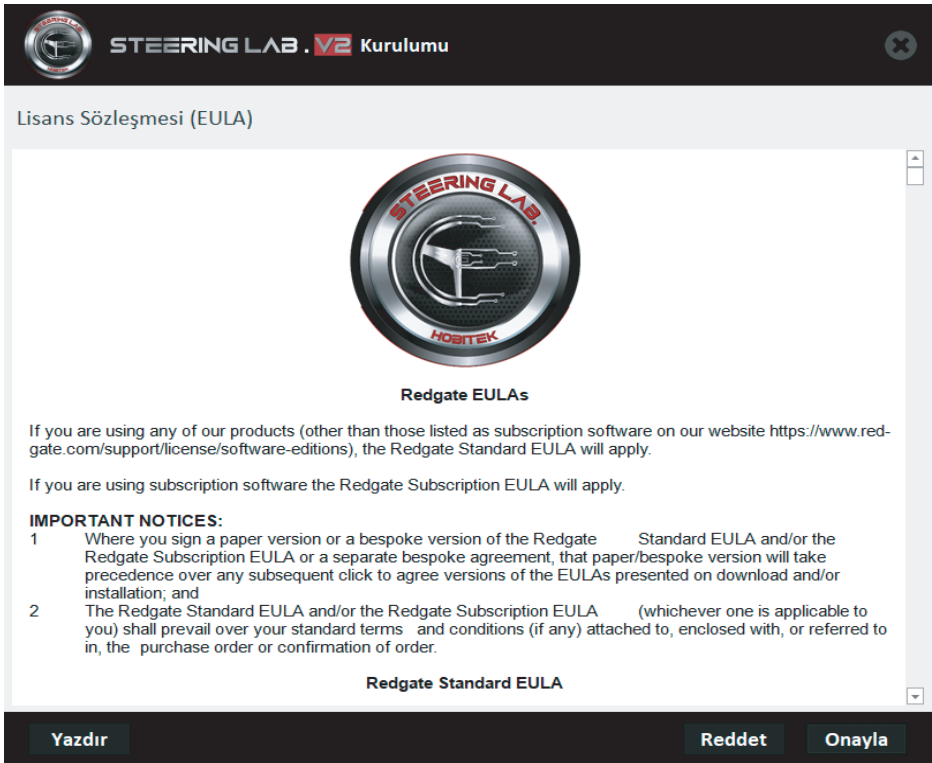

Figure 15) Steering Lab. V2 Software License Agreement
- After opening the installation file, accept the agreements that will appear. (Figure 15. and Figure 16.)